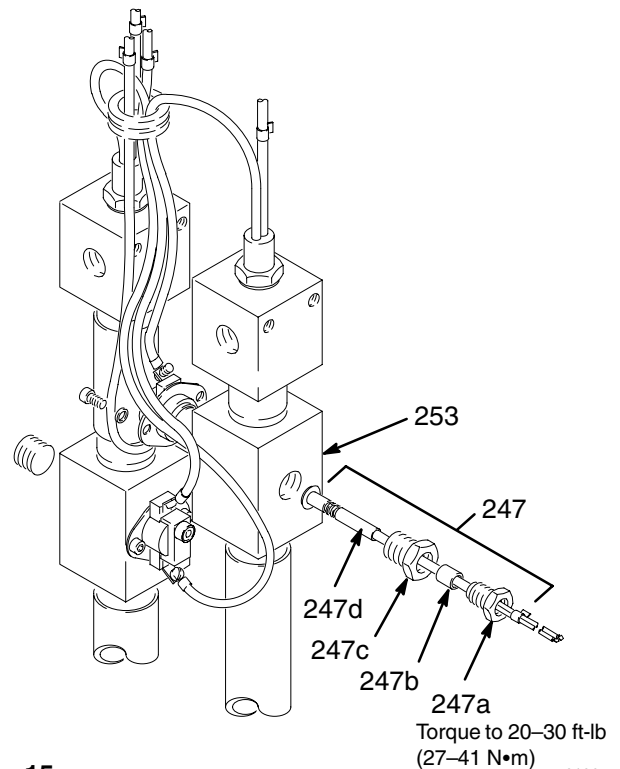

Fig. 15
3. Disconnect the power cord. Remove the front heater panel (238).
5. Unscrew the adapter (247c) and remove the probe assembly (247) from the manifold (253). See Fig. 15.